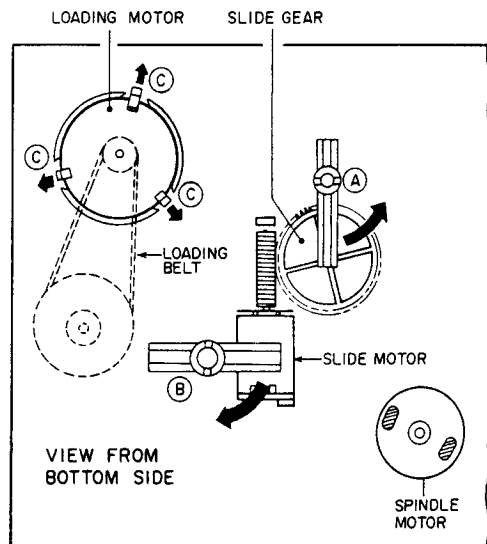

Fig. 3-4
- 1) Turn the Ⓐ GEAR HOLDER LEVER counter-clockwise (Fig. 3-4), then pull out the SLIDE GEAR.
- 1) Remove the LOADING BELT, then remove the LOADING MOTOR while releasing the Ⓒ hooks (Fig. 3-4).
- 1) Turn the ⓑ SLIDE MOTOR HOLD LEVER (Fig. 3-4) clockwise, then pull out the SLIDE MOTOR.